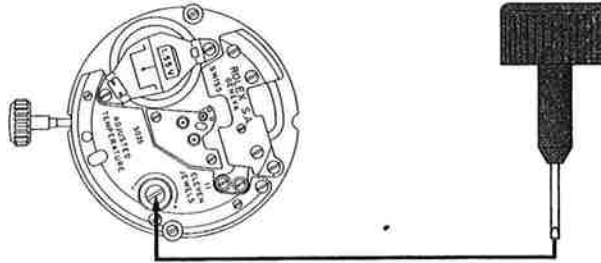

Fig. 8
- 4.2. Make any correction that may be necessary by turning the screw of the trimmer (Fig. 8) in the corresponding direction with the ROLEX tool Ref. 2023. The trimmer is a rather fragile element therefore only press gently on it.